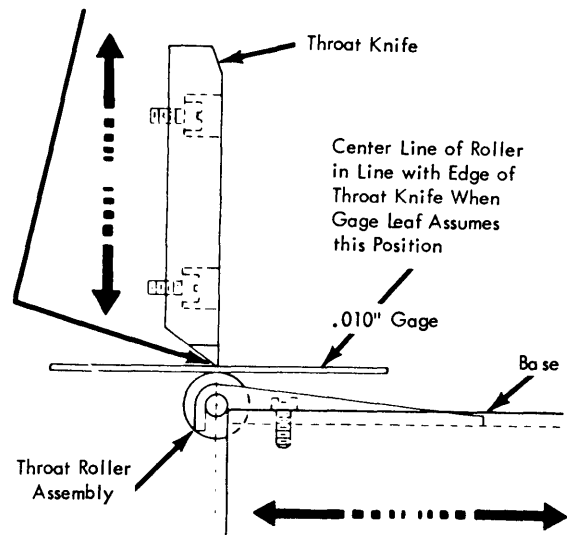

Figure 4-11. Throat Clearance
3. Position the throat roller assembly laterally so that the vertical center line of the roller is aligned with the face of the throat knife. This can be determined by observing the step on the roller block or by use of a feeler gage (Figure 4-11).